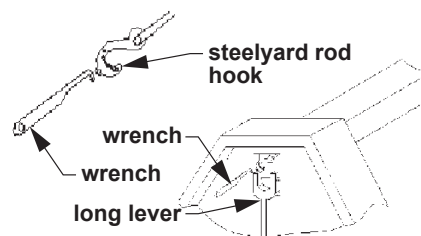

Fig. 4: Attach Steelyard Rod to Long Lever
3. Insert the wrench in the small hole in front of the steelyard rod (the steelyard rod is inside the pillar). Use the wrench hook to pull the steelyard rod hook over the long lever, as shown in Fig. 4 and 5.